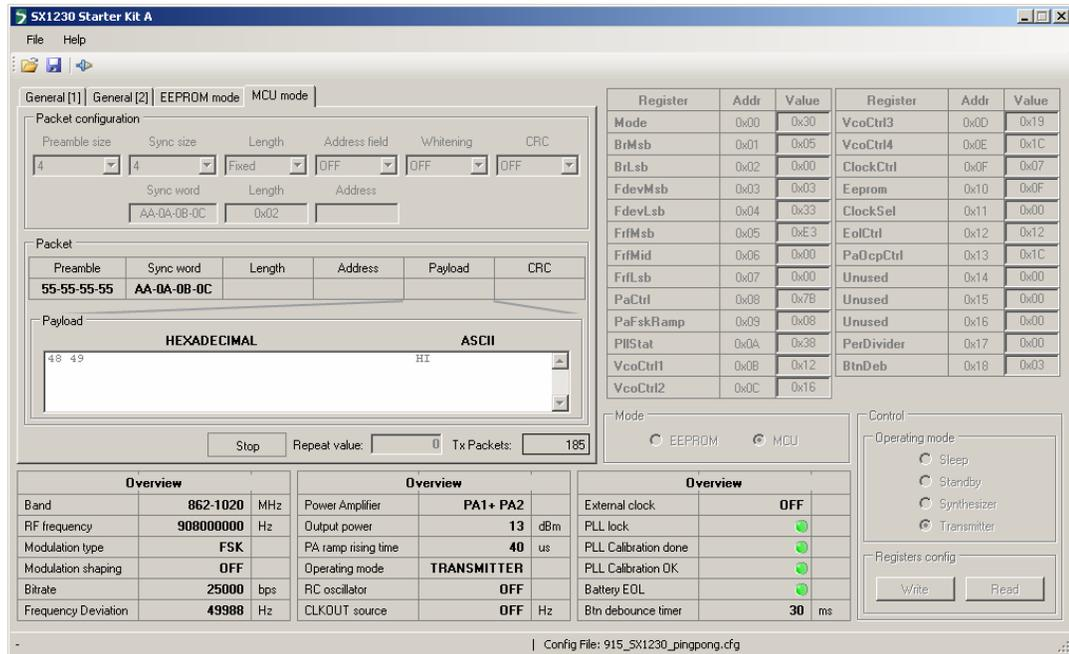

Figure 11. SX1230 During MCU Mode Packet Transmission
- Once successfully configured, the SX1230 must be placed in packet transmission mode. This is done by selecting the 'MCU mode' tab – note that a pre-configured frame format identical to that for the SX1211SKA is already entered into the display. It suffices simply to click on the 'Start' button to begin continuous transmission of this frame. For clarity a screenshot illustrating the display during transmission is shown in Figure 11.